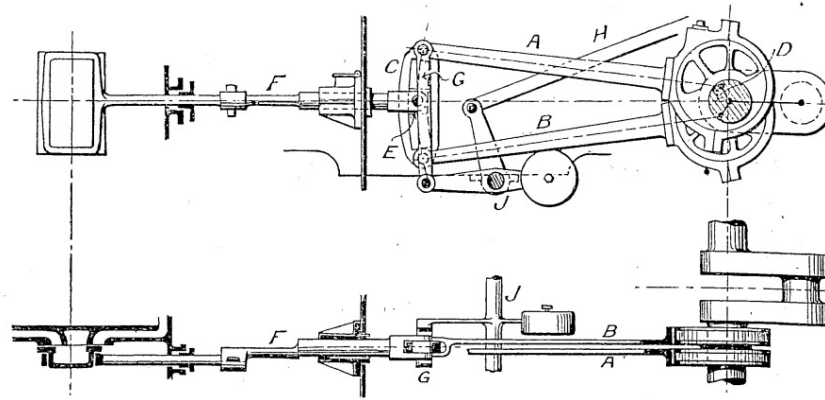

Fig. 1: Stephenson link motion (from Lineham, 1912)
- all figures, photos, graphs, diagrams and tables must have captions (*e.g.* Fig. 1: Sketch of mechanism showing parts)
In *Stephenson's Link Motion* (Fig. 1) the eccentric rods A B are connected to either end of a link C, curved to a radius from D. The valve spindle F supports a die E capable of vertical movement relatively to link C, such movement being controlled by the lifting link G. If the reversing rod H be moved to the right, the rocking link J will lift the radius link until rod B is nearly level with the valve spindle, and the valve then receives almost all the horizontal movement of B, while A's motion is all but inoperative on the valve (Lineham, 1912).